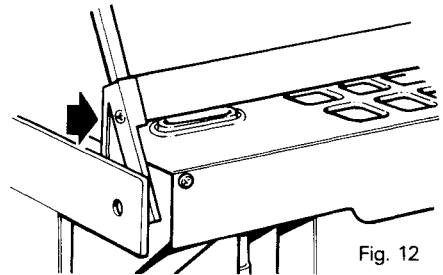

Fig. 12
2. Raise lid and remove one screw from side of each lid hinge arm arrowed, (see Fig. 12) taking care to hold glass lid. Slide glass upwards out of lid arms.